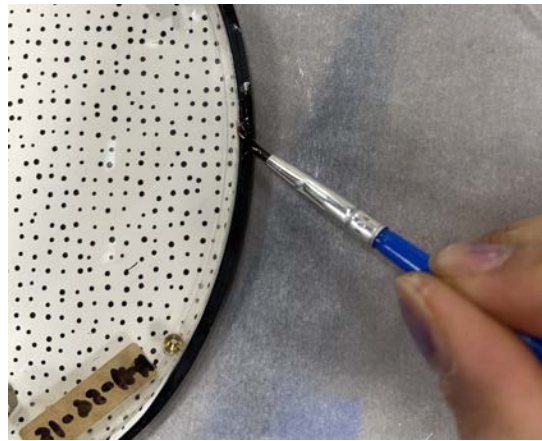

Figure 60: Applying final layer of glue between sealing band and acrylic
26. You may choose to apply one more application of CA glue on the side opposite the bubble between the acrylic and sealing band (Fig 60)